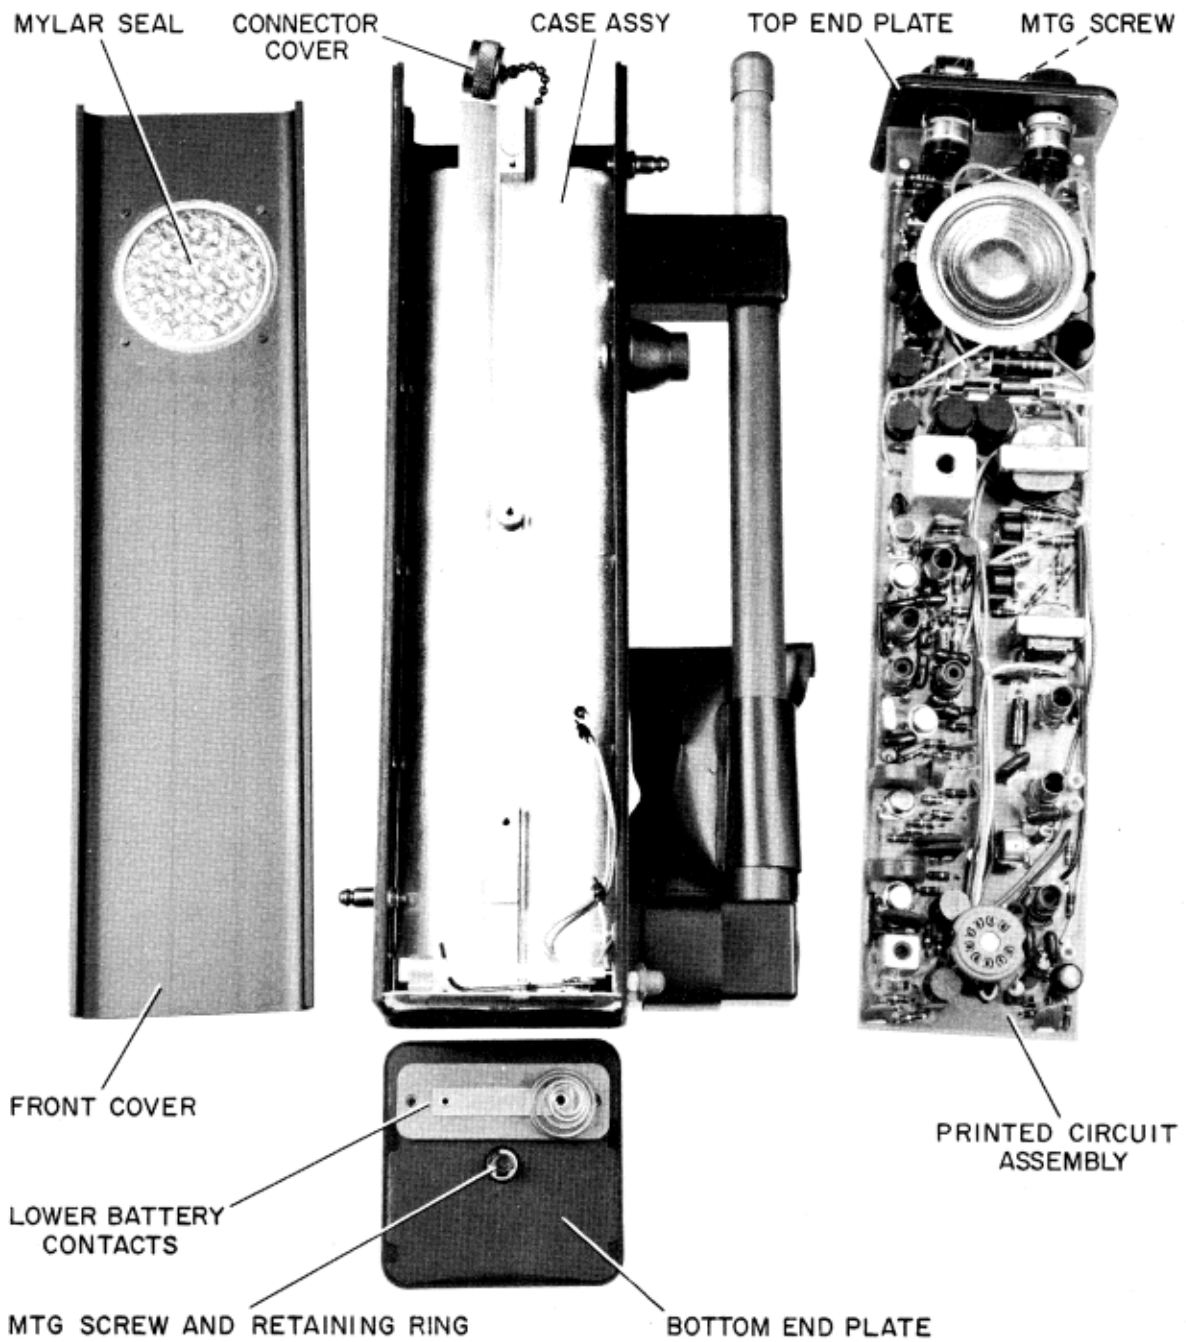

Figure 3. Model HT-1A, Interior View, Crystal, Adjustment Points, and Component Identification
d. Refer to figure 3 and install crystal CR1 for the selected channel frequency in receiver section at the point shown. The crystal frequency is the operating frequency minus 14.4 Megacycles. Crystals are marked with channel frequency and preceded by the letter 'R' for receiver crystals.
e. Refer to figure 3 and install crystal CR3 of the selected frequency in transmitter section at the point shown. The crystal frequency is the actual operation frequency desired for the selected channel. Crystals are marked with the channel frequency and preceded by the letter 'T' for transmitter crystals.
a. Refer to figure 3 and connect the TS-20/35 Test Set to Test Meter receptacle S1 using the Test Set Adapter Cable if not previously connected.
f. Refer to figure 3 and, using the insulated alignment tool provided, adjust RF input transformer L1, first converter transformer L2, and first converter oscillator coil L3. Adjust for maximum audio output at the loudspeaker.
i. Disconnect signal generator from EXT ANT receptacle and extend the telescoping antenna to maximum. Using the insulated alignment tool provided, refer to figure 3, and tune RF input transformer L1 for maximum output at the loudspeaker. The coil may be tuned for maximum background noise in the absence of a low level signal.
c. Press the push-to-talk button on the Transceiver to operate transmitter and adjust oscillator to channel frequency by adjusting slug in coil L6 with an insulated alignment tool (figure 3). Observe Test Set meter for proper indication of current in or near green target area. The oscillator does not require peaking when adjusted to proper channel frequency by monitoring equipment. Release and press push-to-talk button several times to observe oscillator starting ability. Failure to start is normally attributed to improper adjustment such as attempting to peak the output.
e. Refer to figure 3, operate transmitter and adjust coils L7 and L8 alternately to obtain the 0.5 watt power output indication on the RF wattmeter. The current indication on the Test Set meter must read in the green target area to prevent excess current conditions. The channel frequency should be checked on a frequency meter or receiver of known accuracy. Release and press push-to-talk button several times to check oscillator starting.